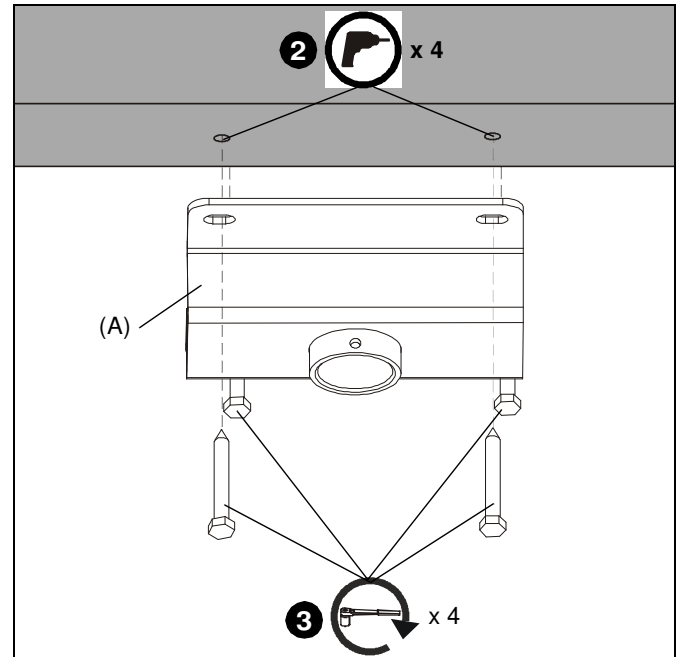
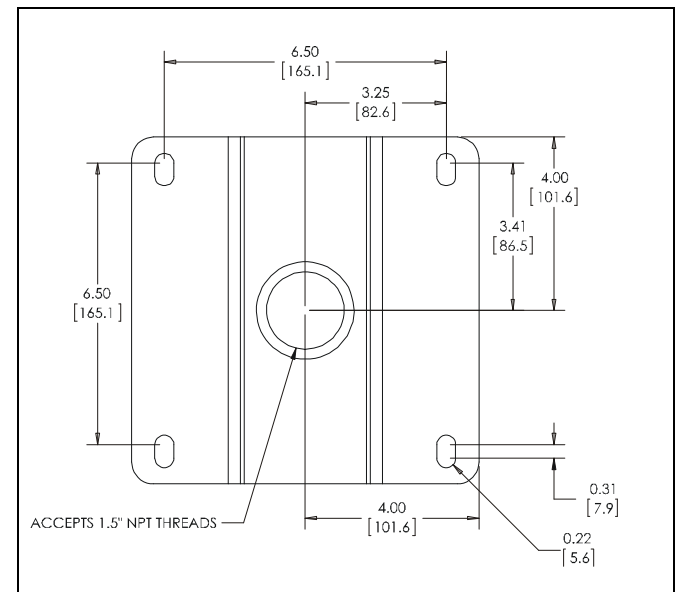

Figure 2
Figure 3
2. Drill 1/4" diameter pilot holes into wood joists (See Figure 2). Ensure pilot holes are straight.
3. Install and tighten four 3/8" x 2-1/2" (minimum) Grade 2 lag screws (not included) through CMA330 (A), into wood joist (See Figure 2). See Figure 3 for dimensions details.
2. Secure the threaded rods to the CMA mount with ASTM A307 or better 3/8" jam nuts (not provided) and washers (one of each on inside and one of each on outside-not provided). See Figure 3 for dimensions details.
1. Use four Ux10 anchors (not provided) to secure CMA mount into solid concrete ceiling. See Figure 3 for dimensions details.